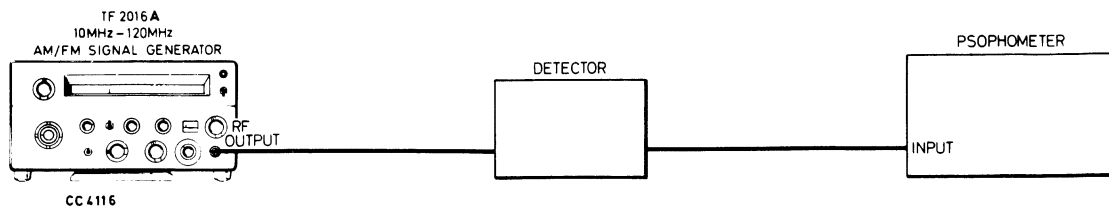

Fig. 5 Checking spurious a.m. on c.w.
- (1) Connect the test equipment as shown in Fig. 5. Then with the FUNCTION selector at CW, the CARRIER switch at ON, the MOD switch at ON and TF 2016A tuned to 100 MHz check that the pointer of the MOD/CARRIER meter is within the white box.
- (2) Set the FUNCTION selector at INT AM. Then adjust the SET MOD control to centre the pointer of the MOD/CARRIER meter.